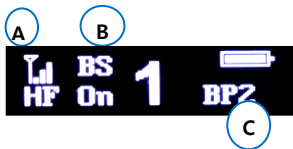

Figure 4-17. Normal menu in BP mode
In Beltpack (BP) mode, the Beltpack menus will be shown in the Mobile Station accordingly. Therefore, there will be additional menus, Two Groups and Handoff Sensibility in compared with the menus in MS mode. As shown from the figure 4-17, Normal menu below, the Received Signal Strength Indication (RSSI) level 'A', Station ID that the Beltpack is linked to 'B' and the Beltpack label 'C' will be indicated on the display.